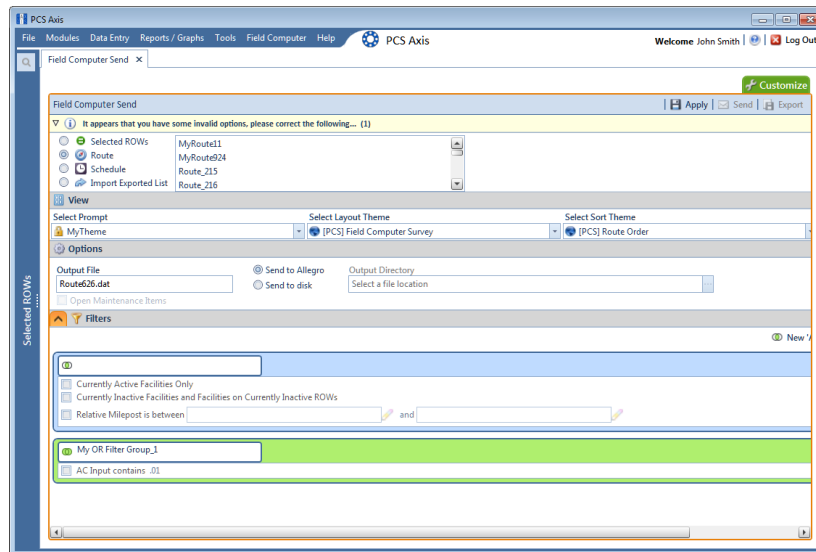

Figure 13-47. Filters
- a Click the  **Filters** tab to open the *Filters* panel (Figure 13-47).